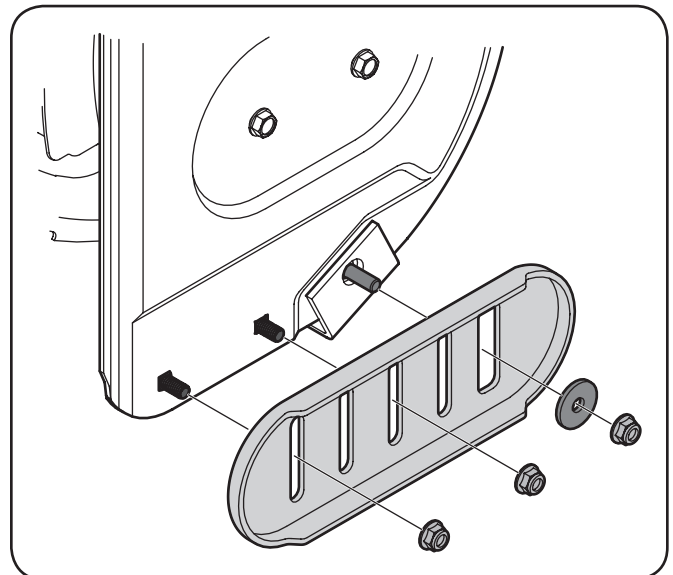

Figure 3-28
- Using a 1/2" wrench, loosen the hex nuts. Move skid shoes to desired position. See Figure 3-28.